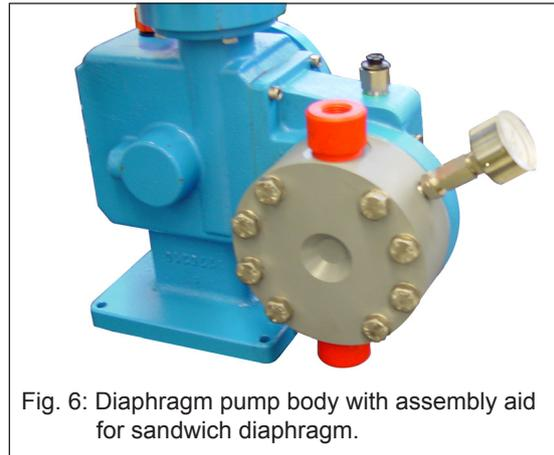

Fig. 6: Diaphragm pump body with assembly aid for sandwich diaphragm.
The plastic version of the diaphragm pump body is formed on the outside in such a way that it can be used as an assembly aid (see fig. 6). The additionally required aids (2 grub screws, matching wing nuts) are included as **assembly aids** in the spare part pack for the sandwich diaphragm.
10. Turn the diaphragm pump body around and, without tilting it, place it with the fluid side on the diaphragm drive housing (501) and tighten the screws (536) evenly by hand. The assembly aid side is now on the outside again (see fig. 6).